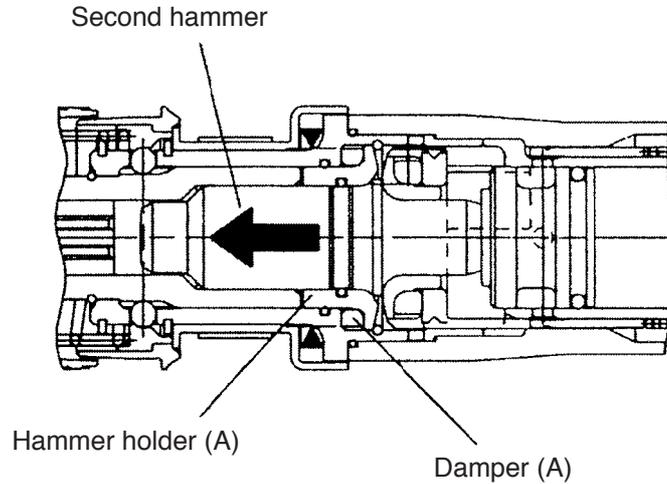

Fig. 7
At the instance of releasing the bull point from the concrete by moving the main body up, the second hammer contacts hammer holder (A) as shown in Fig. 7 then the cushion (damper (A)) provided between hammer holder (A) and the front cover absorbs the striking force of the second hammer. Thus the durability of the Model H 45MRY is greatly increased because the second hammer does not strike the tool retainer directly.